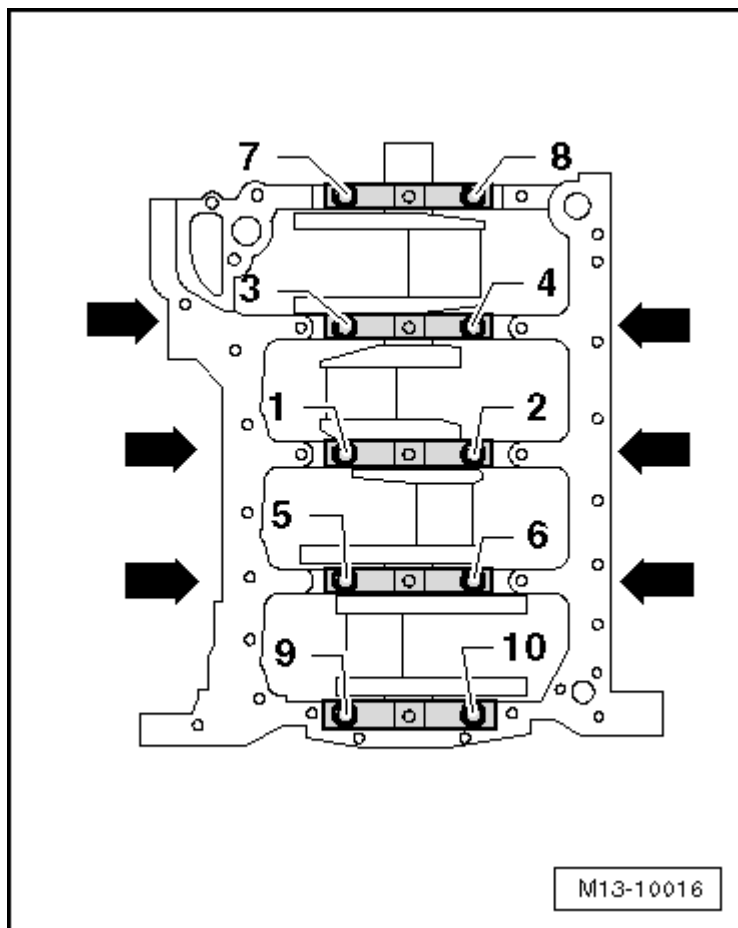

Fig. 13: Identifying Crankshaft Bearing Cap Bolt Tightening Sequence and Specification
- Crankshaft bearing cap tightening sequence. Refer to **Fig. 13**.
- For the tightening sequence and specification; refer to **Fig. 13**.
- Tightening sequence, refer to **Fig. 13**.